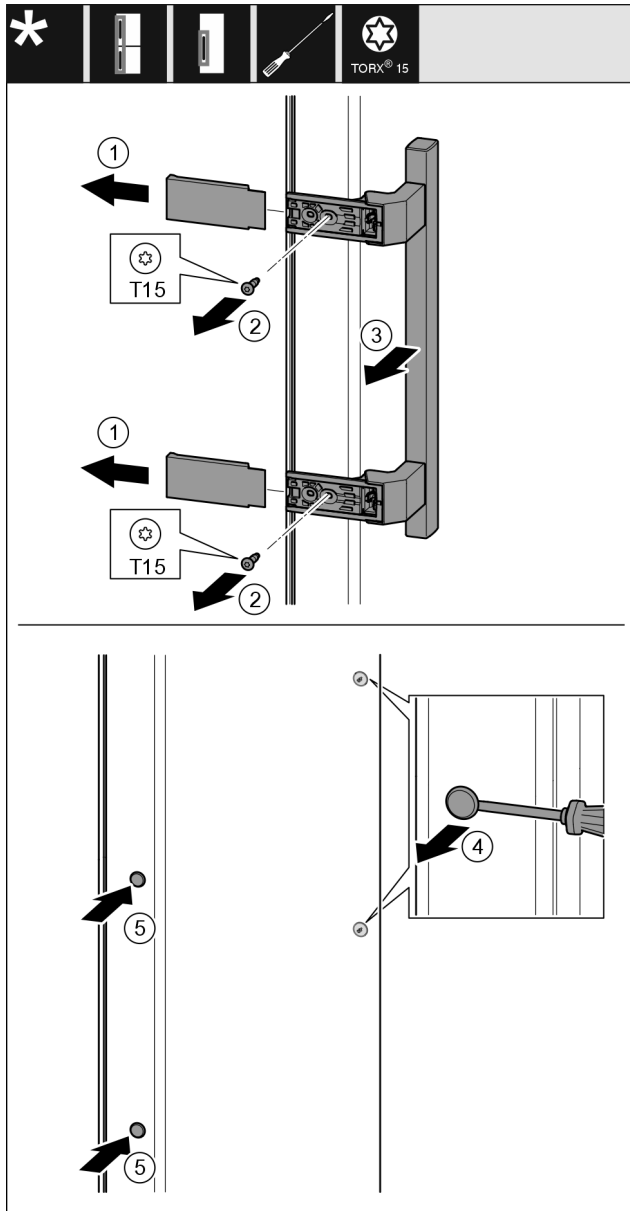

Fig. 20
- ▶ Remove the cover Fig. 20 (1).
- ▶ Unscrew screws Fig. 20 (2) with screwdriver.
- ▶ Remove the handle Fig. 20 (3).
- ▶ Use a slotted screwdriver to lift the side plug Fig. 20 (4) carefully and pull it out.
- ▶ Re-insert the plug Fig. 20 (5) on the other side.